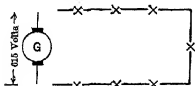

FIG. 94. There is a voltage drop along the wires connecting the lamps.
**Prob. 47-5.** Each arc lamp, Fig. 94, takes 4 amperes at 85 volts. The distance between lamps is 200 feet. The lamps nearest the generator are 200 feet from it. What size wire is used for line wires?